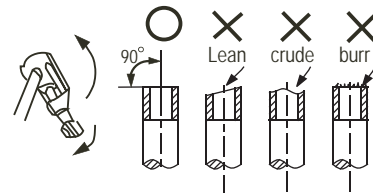

Fig.8-1
- Cut a pipe with a pipe cutter. (refer to Fig.8-1)